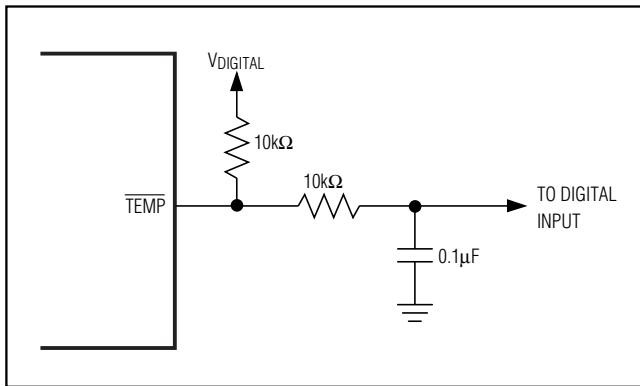

Figure 3. An RC Filter Eliminates Transient During Switching
**TEMP** returns high once the junction temperature cools below the set threshold minus the thermal hysteresis. If **TEMP** is connected to either **MUTE** or **SS**, the audio output resumes. The temperature threshold is set by the **TH0**, **TH1**, and **TH2** inputs as shown in Table 1. An RC filter may be used to eliminate any transient at the **TEMP** output as shown in Figure 3.